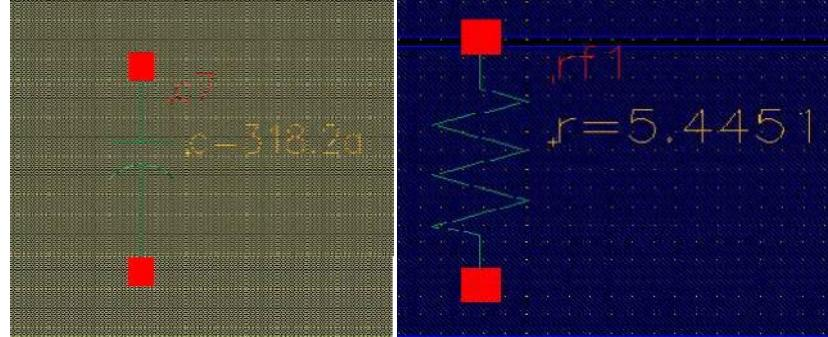

Figure 1.28: Parasitic extraction
6. You can open the av_extracted view from the library manager and view the parasitic. As shown in figure 1.28